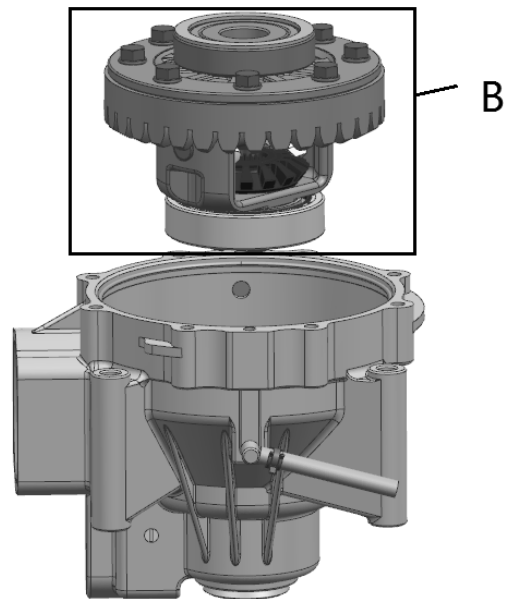

**Fig 5**
6.Remove the differential assembly (B) from the housing.. →Fig 5